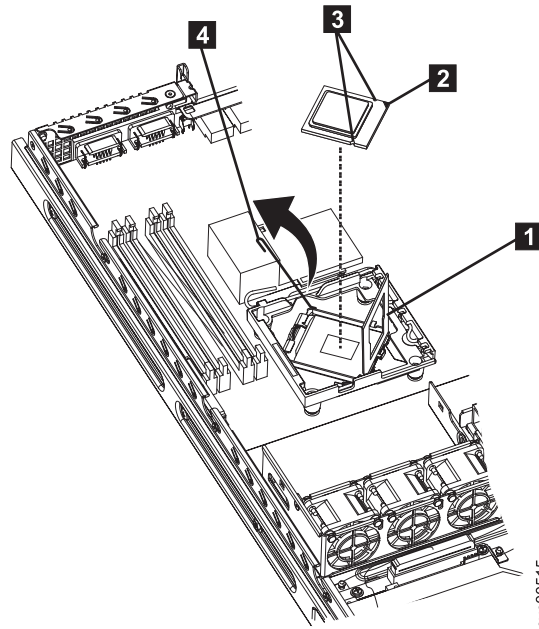

Figure 184. SAN Volume Controller 2145-8A4 microprocessor
1. Make sure that the microprocessor bracket frame **1** and release latch **4**, shown in Figure 184, are both fully open.
2. Align the microprocessor with the socket as shown in Figure 184. (Note the alignment mark **2** and the position of the notches **3**.) Then, carefully place the microprocessor on the socket, close the microprocessor bracket frame **1**, and close the microprocessor release latch **4**.